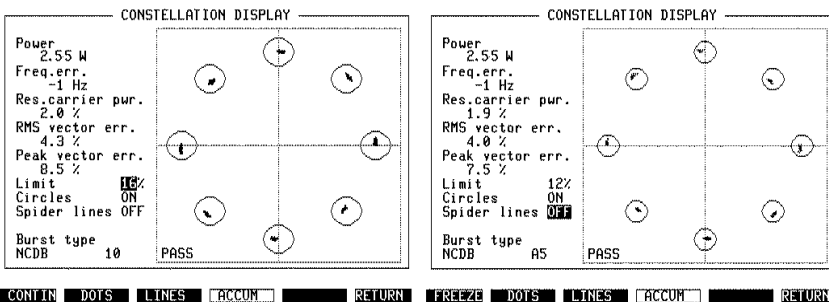

Fig. 10.11:
- In the Limit entry field you can set a percentual range (5% to 30% in steps of 1%) for measurement deviation from the ideal values. The circles are displayed, if you set the Circles entry field to ON (**Fig. 10.11**), and if ACCUM mode is selected.